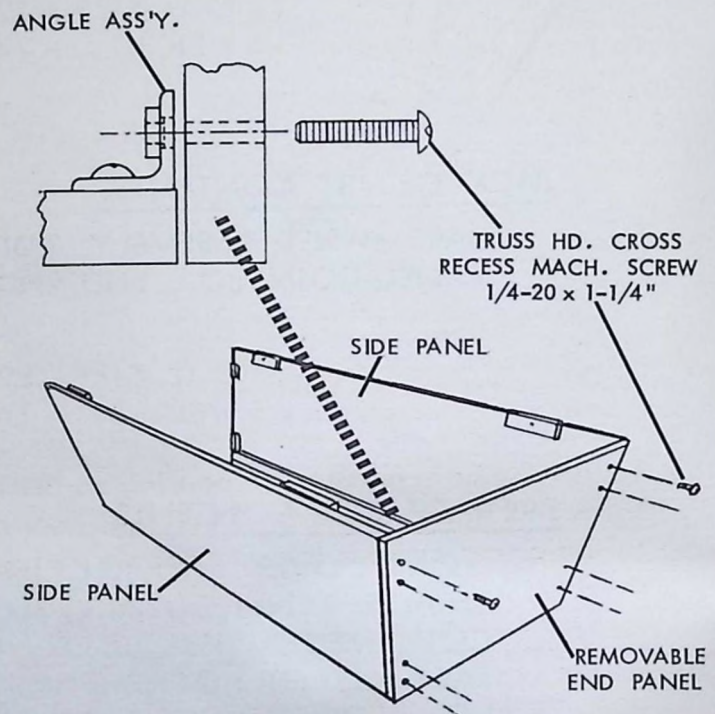
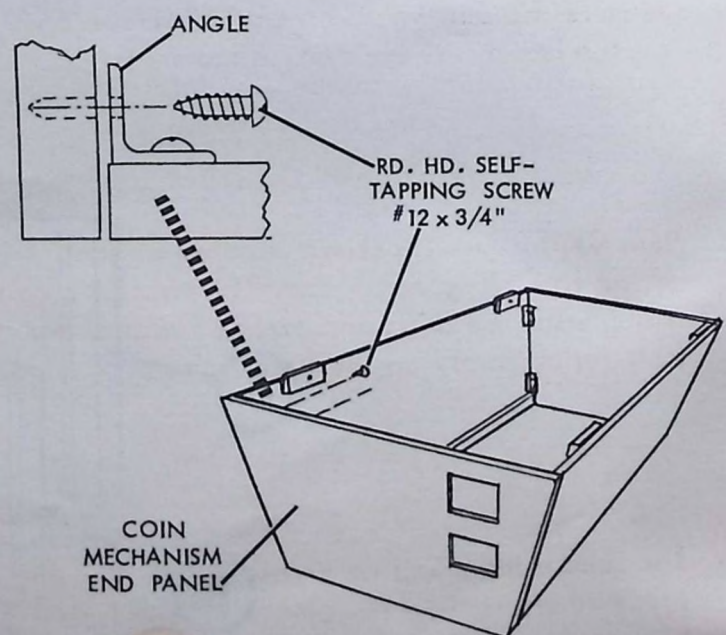

FIGURE 2
FIGURE 3
2. Assemble the removable end panel to the two (2) side panels. (Figure 2)
3. The removable end panel has eight (8) holes all the way through for machine screws, and the brackets on the correct end of the side panels are threaded for the machine screws.
4. Attach the remaining coin mechanism end panel to the side panels, using eight (8) round head self-tapping screws. (Figure 3)